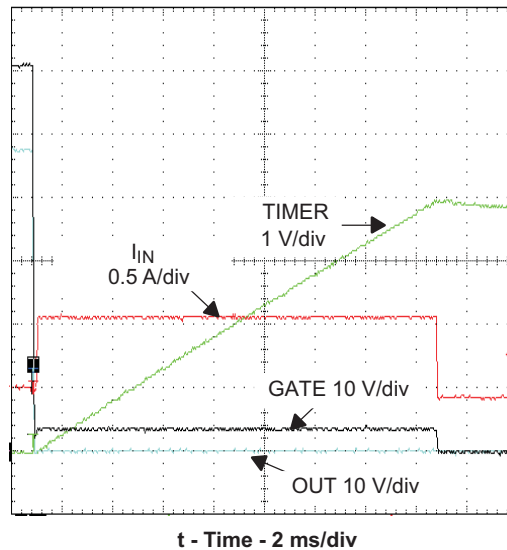
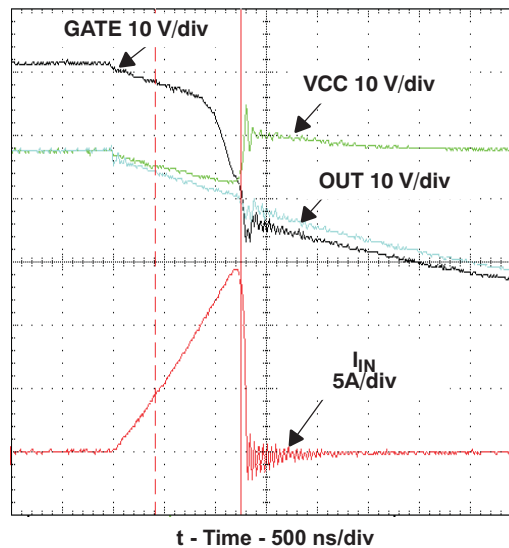

Figure 14. Current Limit Overview
Figure 15. Current Limit Onset
7.4.4 Response to a Hard Output Short (Figure 14 and Figure 15)
Figure 14 shows the short circuit response over the full time-out period. The period begins when the output voltage falls and ends when Q1 is turned off. Q1 current is actively controlled by the constant power engine and gate amplifier circuit while the TIMER pin charges C_T to the 4-V threshold causing Q1 to be turned off. The TPS2490 latches off after the threshold is reached until either the input voltage drops below the UVLO threshold or EN cycles through the false (low) state. The TPS2491 goes through a timing sequence before attempting a restart.
The TPS249x responds rapidly to the short circuit as seen in Figure 15. The falling OUT voltage is the result of Q1 and C_O currents through the short's impedance at this time scale. The internal GATE clamp causes the GATE voltage to follow the output voltage down and subsequently limits the negative V_{GS} to 1 V to 2 V. The rapidly rising fault current overdrives the GATE amplifier causing it to overshoot and rapidly turn Q1 off by sinking current to ground. Q1 slowly turns back on as the GATE amplifier recovers; Q1 then settles to an equilibrium operating point determined by the power limiting circuit.
Minimal input voltage overshoot appears in Figure 15 because a local 100- μF bypass capacitor and very short input leads were used. The input voltage would overshoot as the input current abruptly drops in a typical application due to the stored energy in the input distribution's inductance. The exact waveforms seen in an application depend upon many factors including parasitics of the voltage distribution, circuit layout, and the short itself.